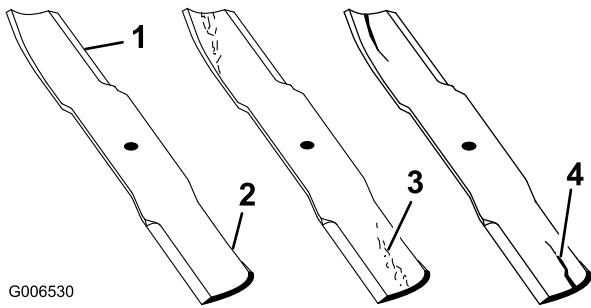

Figure 44
1. Inspect the cutting edges (Figure 44).
2. Inspect the blades, especially the curved area (Figure 44).
Note: If you notice any damage, wear, or a slot forming in this area (items 3 and 4 in Figure 44), immediately install a new blade.